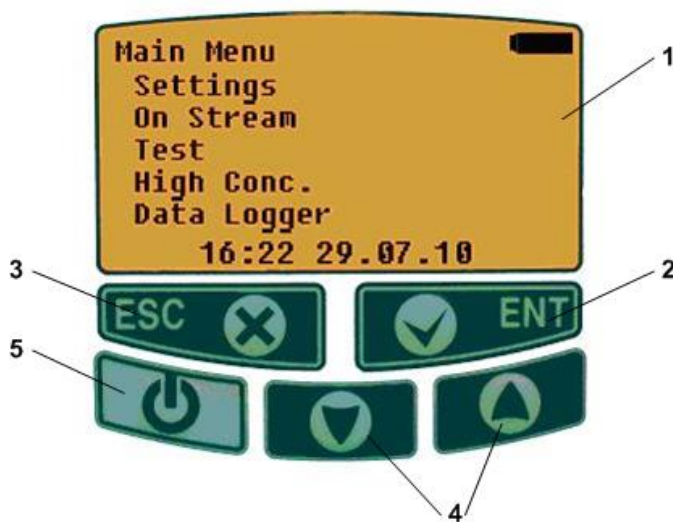
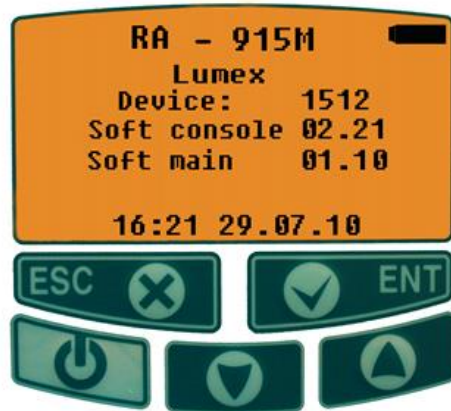

Fig. 1-5 - Display and control unit
Fig. 2-1 - Splash screen
The display and control unit of the analyzer is shown in Fig. 1-5.
Switch on the analyzer by pressing the **On/Off** button (pos.5, Fig. 1-5) and hold it down for 1-2 seconds (to switch the analyzer off press the **On/Off** button and **hold it down for 4-5 seconds**). The splash screen that contains the model name, the manufacturer's name, the serial number, software versions and the current date and time will appear on the display (Fig. 2-1).
If the analyzer does not respond to any action, press the **On/Off** button (pos.5, Fig. 1-5) and the **Esc** button (pos.3, Fig. 1-5) simultaneously to restart the analyzer. To restart the analyzer with 06.25 or a higher version of the console software, press the **On/Off** button (pos.5, Fig. 1-5) and the **Ent** button (pos.2, Fig. 1-5) simultaneously.